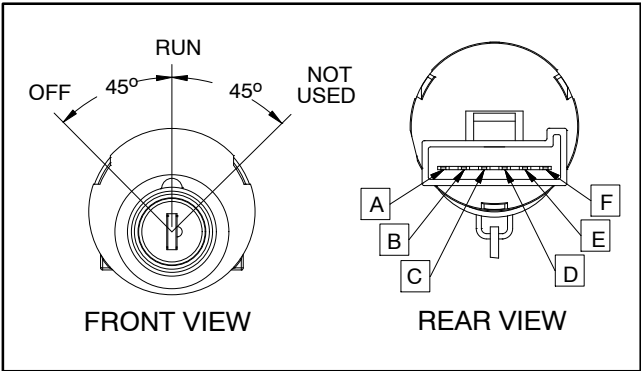

Figure 5
The ignition switch used on the Workman has six (6) switch terminals and three (3) key switch positions. Only two of the positions are used (OFF and RUN). The switch terminals are identified as shown in Figure 5.